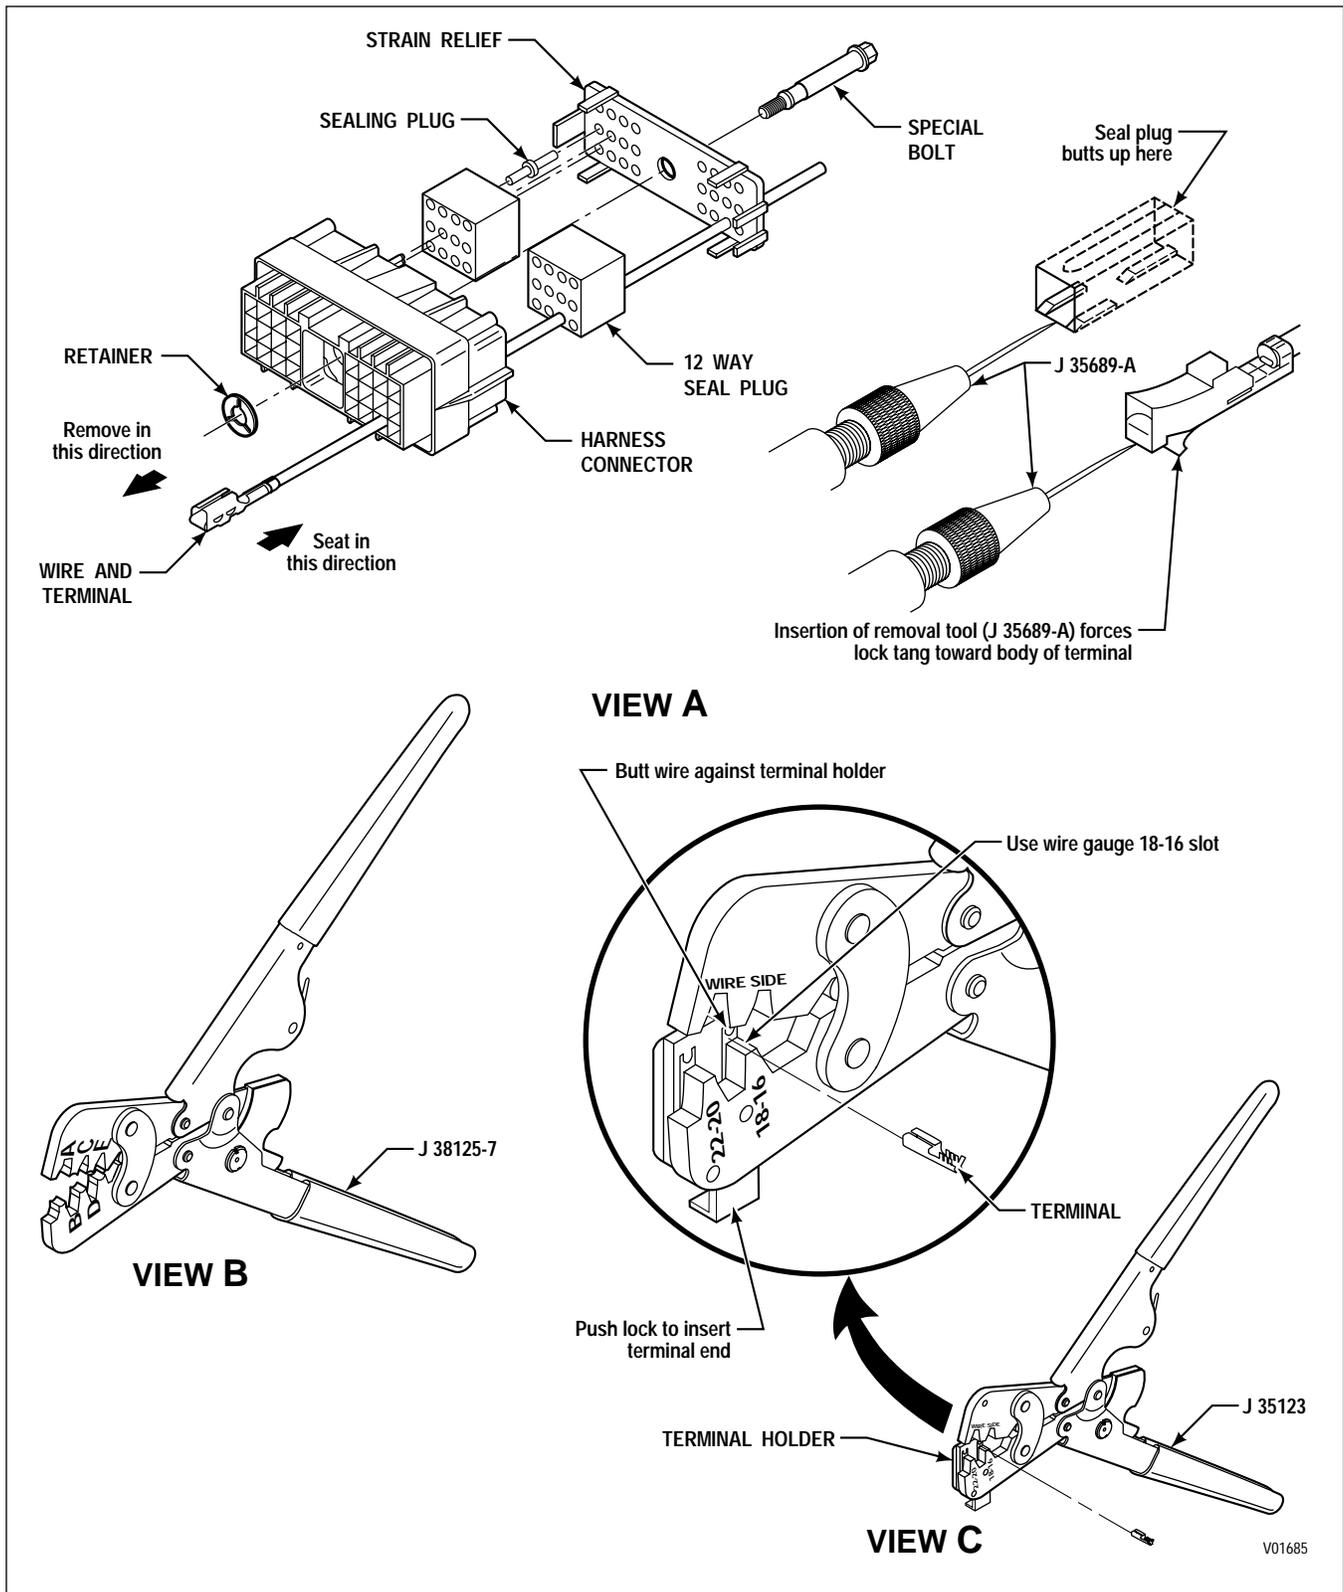

Figure C-2. Delphi-Packard Metri-Pack 150 Series Connectors — Pull-to-Seat (Speed Sensor, 30-Way and 18-Way VIM)
1. Insert needle end of terminal remover J 35689-A into the small notch between the connector and the terminal to be removed (Figure C-2, View A). Push the lock tang toward the terminal.
3. Place core crimp portion of terminal on bed of anvil “E” and squeeze crimper enough to keep terminal from dropping (Figure C-2, View B).
2. Insert remover tool in front side of connector to release locktab and push terminal out front of connector. Pull the terminal and wire out the front of the connector to complete Steps (3) through (7).
3. Push open the terminal holder on the crimper tool J 35123 and insert a terminal into the opening marked 18-16 (Figure C-2, View C) so that the crimp ends point up. Release the terminal holder.